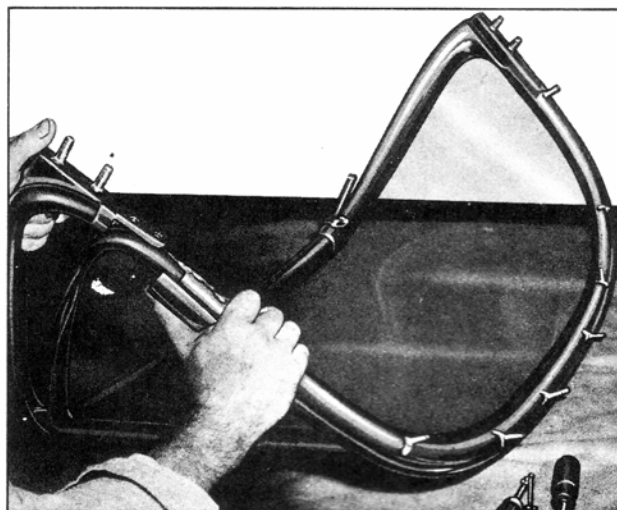

Fig. 4—Removing Side Frame
4. Remove side frame pieces by pulling away from the lower frame and sliding out at the upper frame, away from the rubber channel (fig. 4).